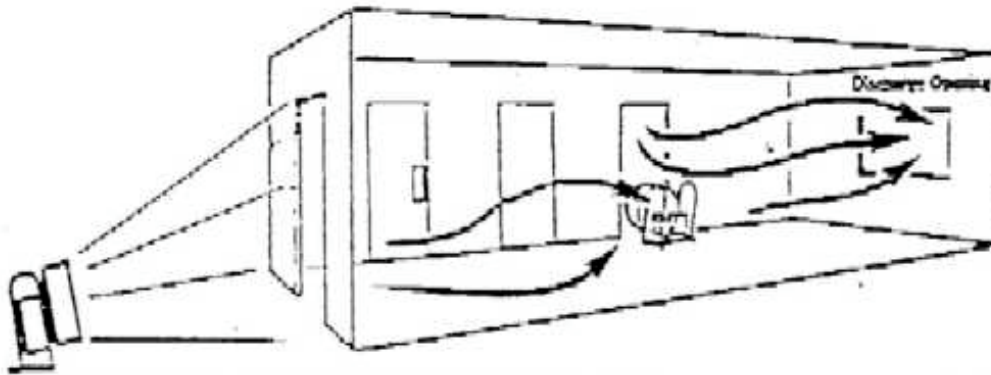

FIGURE 4
- c. As smoke is forced from the basement by the first fan to the ground floor, it is discharged outside by the second fan. (See Figure 4.)